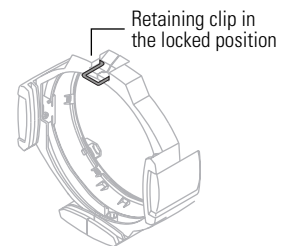

Figure 2
- There are seven “notches” cut into the stippled side of the lens. Position the lens so that the cluster of three notches is on top. The center notch of the cluster coincides with the spring clip on the lens retaining ring. (**Figure 2**)